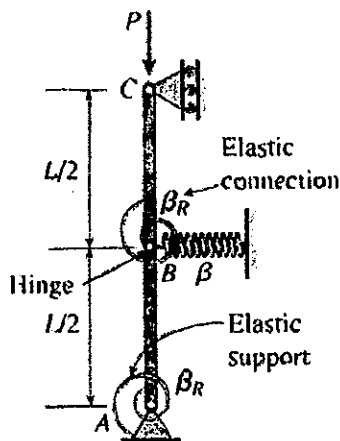

Fig. 1
- The rigid bars  $AB$  and  $BC$  of Fig. 1 are connected at Point  $B$  using a hinge connection and supported using a hinge, a linear elastic spring with a spring constant of  $\beta$ , and a roller at Points  $A$ ,  $B$ , and  $C$ , respectively, as shown in Fig. 1. The spring constants of the two rotational springs at Points  $A$  and  $B$  are both  $\beta_R$ . The lengths of Bars  $AB$  and  $BC$  are both  $L/2$ . The structure is subjected to a vertical axial load  $P$ . Find the critical axial load  $P_{cr}$  of the structure. (20%)